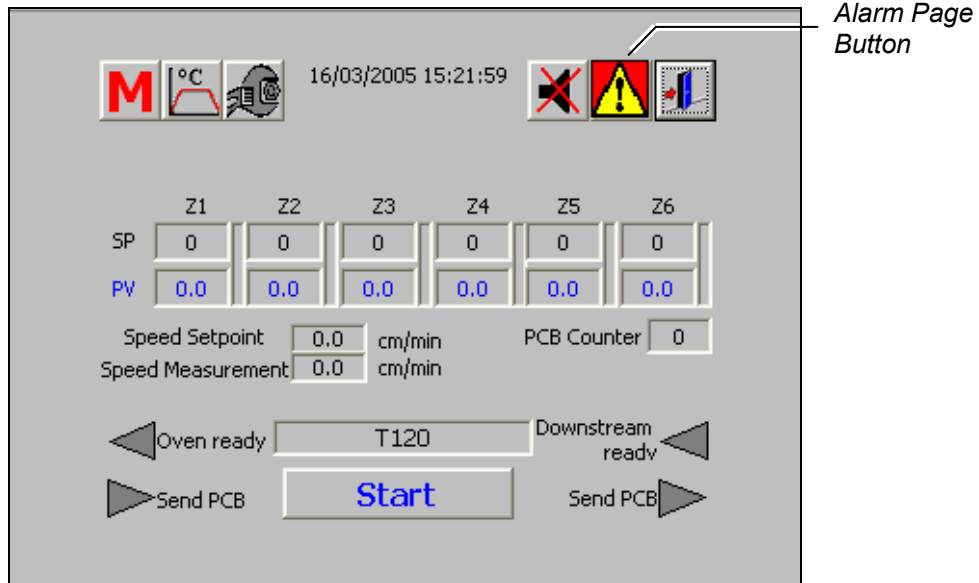

Figure 6-50 Main Menu – Alarm Page Button
- The Main Menu is displayed. Click on the **Alarm Page** button (Figure 6-50).